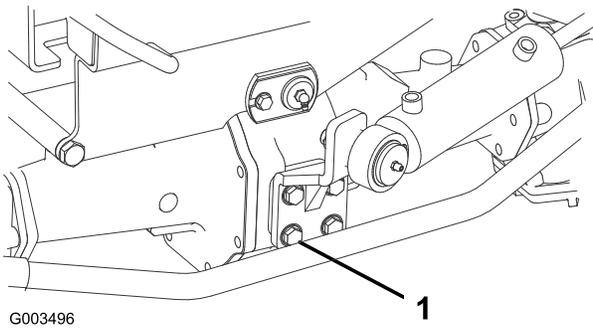

Figure 55
2. Check the torque on the steering cylinder mounting bolts (Figure 55). Torque should be 48 to 60 ft-lb.